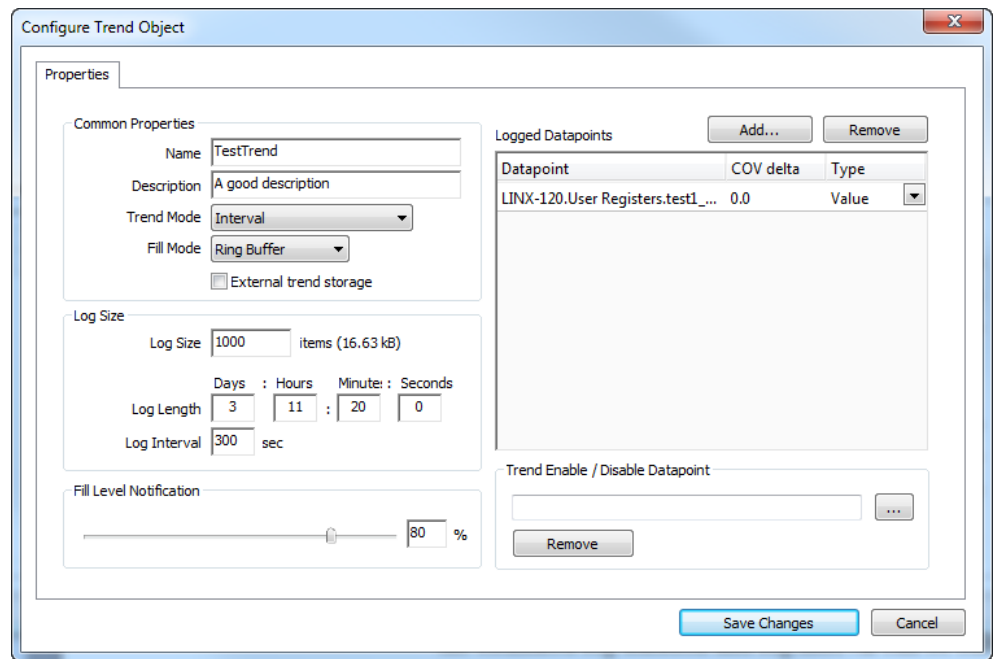

Figure 169: Basic Trend Object Configuration.
- In the **Create New Trend Object** dialog (shown in Figure 169) enter a name and optionally a description for the trend log object.